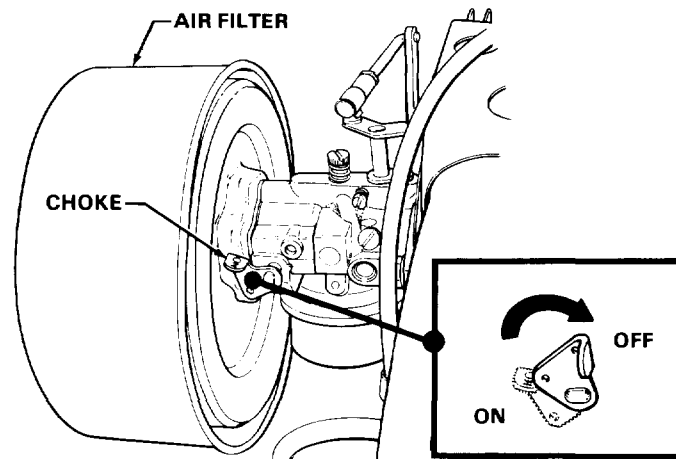

Fig 9
- d. If the engine is cold, close the choke by turning the lever in the direction of the arrow. See Fig 9.